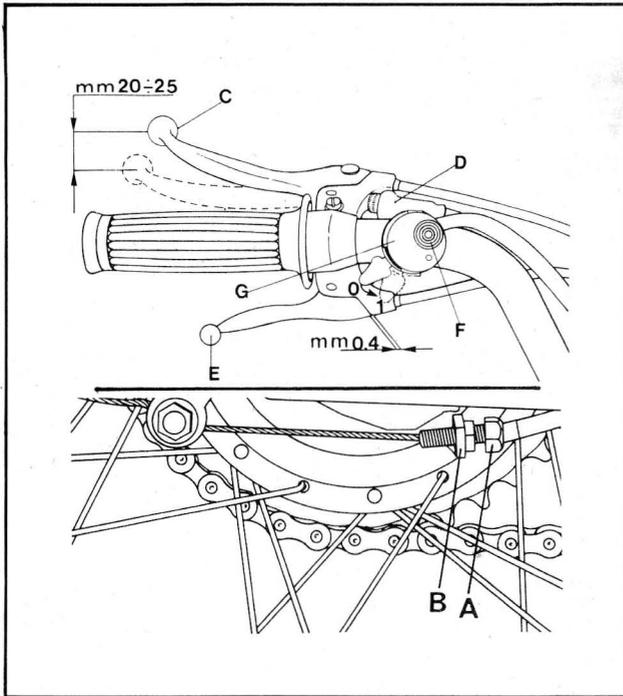

Fig. 10
**Light control switch and horn button (see Fig. 10).**